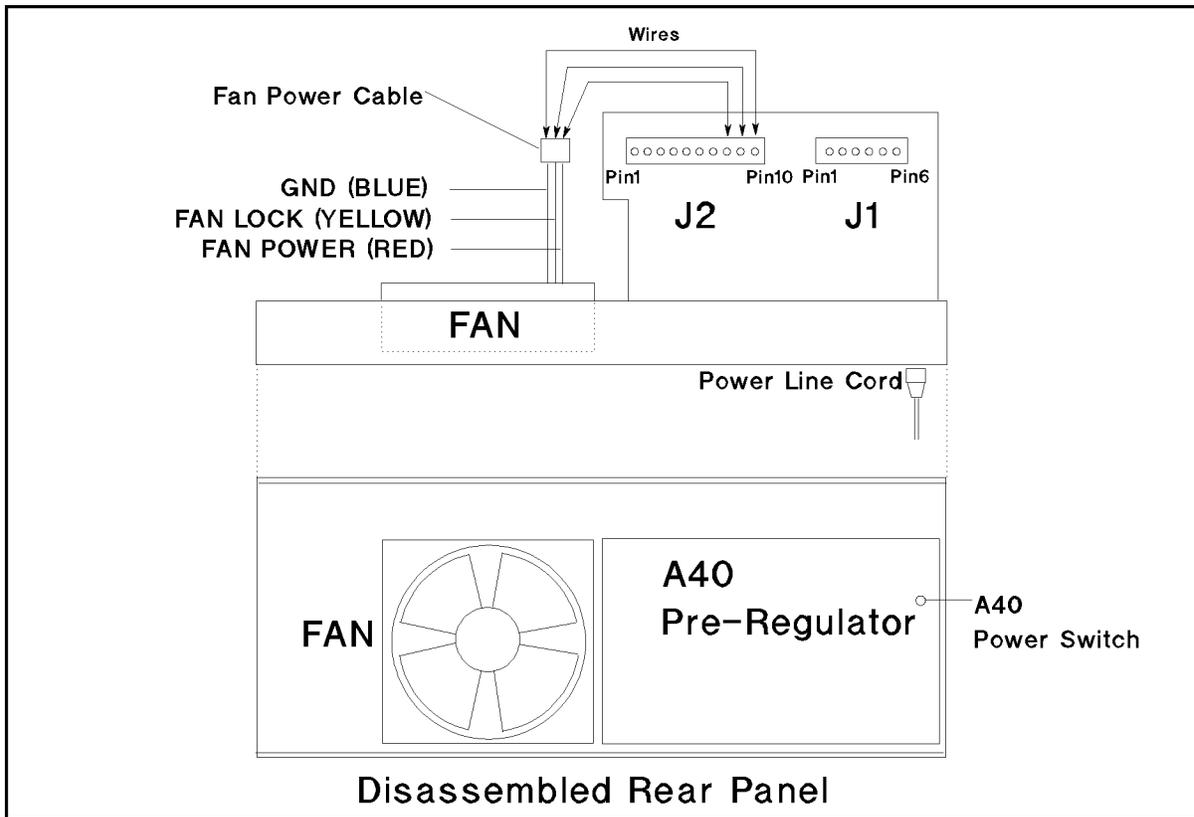

Figure 5-10. A40 Pre-Regulator Troubleshooting Setup
- a. Connect the fan power cable to the A40J2 using appropriate wires as shown in Figure 5-10.